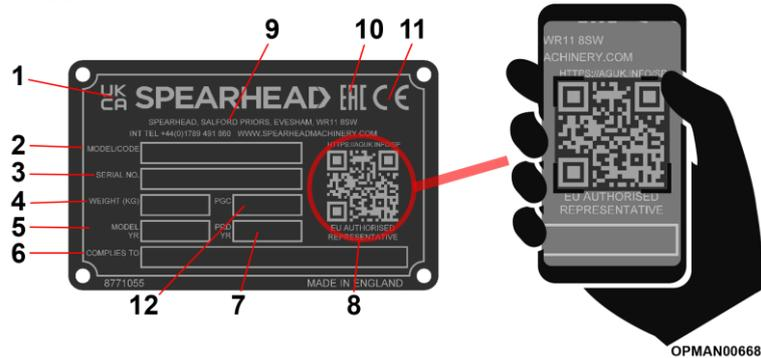

Figure 1.4 – Serial Plate
Each machine is equipped with a serial plate; see Figure 1.4 that includes the following data in this order:
By utilising a smart phone and scanning the Authorised Representative QR scan code found on the right-hand side of the serial plate (ref 8, Figure 1.4) using a suitable QR scanning App, you can find details for Spearhead Machinery authorised representatives for its various territories.